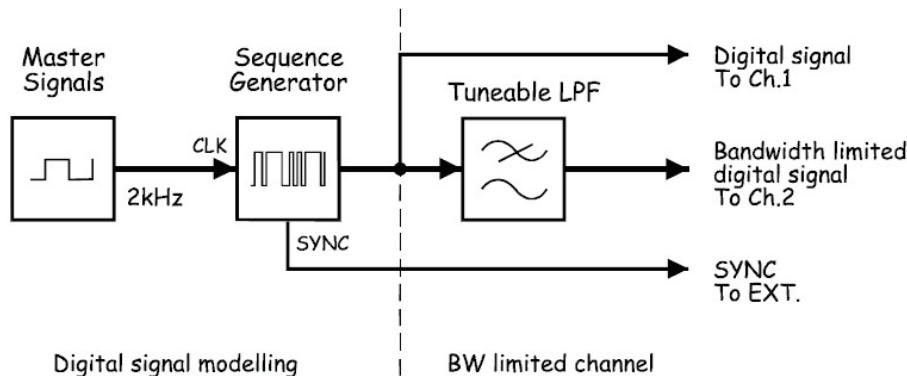

Figure 23: Bandwidth limitation on a digital signal.
- Locate the Sequence Generator module and set its dip switches to 00. Connect the setup shown in Figure 23 below. Use SYNC output to trigger the oscilloscope to provide a stable display.